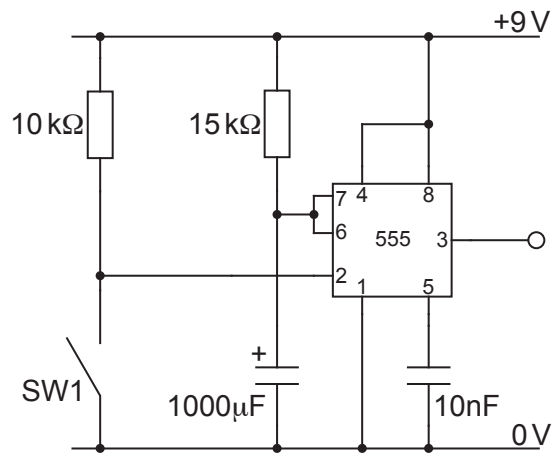

Fig. 11.3
(c) Fig. 11.3 shows a monostable circuit that uses a 555 timer IC.
- (ii) Switch SW1 in Fig. 11.3 is closed 5 seconds after the circuit is switched on. It remains closed for a further 5 seconds before opening again.